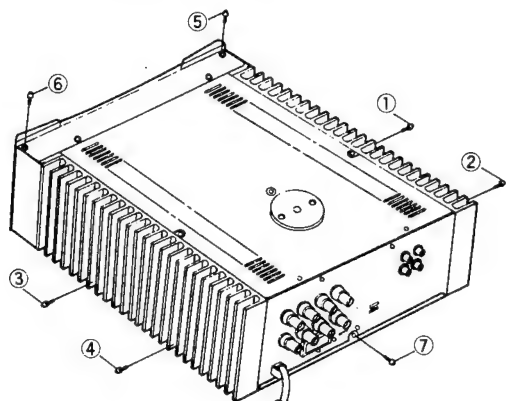

Fig. 1
1. Remove screws ① to ⑦ in Fig. 1